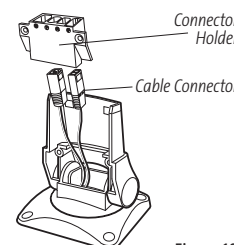

Figure 10
2. Carefully pull the excess cable from beneath the mounting surface so that the connector holder aligns with the mounting holes on the front of the mounting bracket (Figure 10).